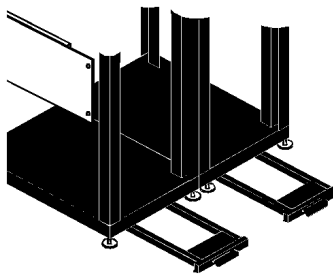

Figure 1. Cabinet Shipping Panels and Anti-Tip Foot
Note	Extend the cabinet's anti-tip stabilizer before moving any components forward out of the cabinet on their slides. See Figure 1.
- If the cabinets are empty and were just unpacked, find and remove the four shipping panels inside the cabinet enclosures. See Figure 1.
- Remove the right side panel from Cabinet 1. (See Figure 1). Remove the two screws at the base of the side panel. Open the rear door and loosen the panel clamp on the door hinges. Grasp the sides of the side panel and pull the bottom of the panel away from the cabinet slightly. Then lift up and away.